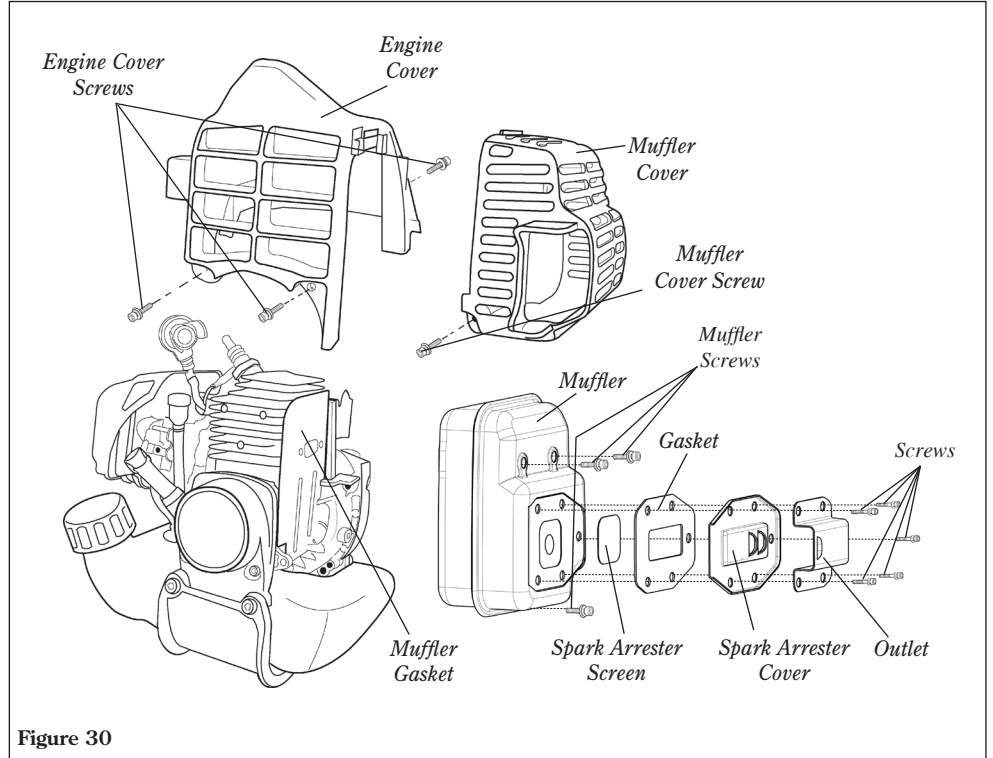

Figure 30
2. With a 3 mm hex wrench remove the 1 muffler cover and 3 engine cover screws and the engine cover. See Figure 30.
3. With a Phillips type screwdriver remove the 5 screws holding the spark arrester screen and cover to the muffler. See Figure 30.
5. With a 4 mm hex wrench remove the 3 muffler bolts and the muffler. See Figure 30.